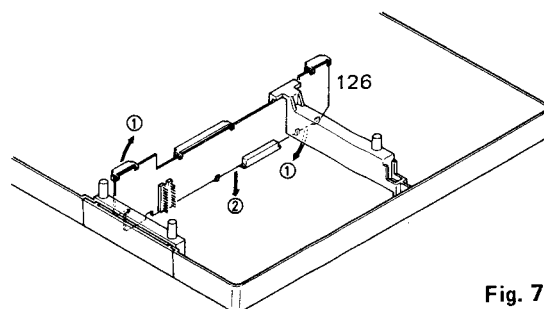

Fig. 7
7. The connector PCB (126) can be detached only after all the above-mentioned printed circuit boards have been removed. Turn the connector PCB in the direction indicated by the arrows ① and then pull it out in the direction indicated by the arrow ②. (cf. Fig. 7)